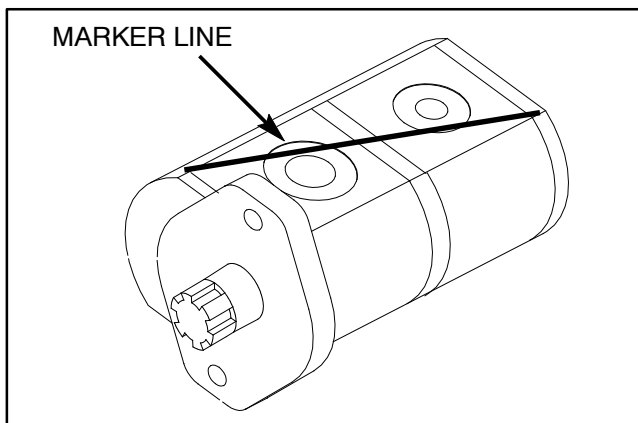

Figure 110
2. Use a marker to make a **diagonal** line across the front plate, front body, adapter plate, rear body, and back plate for assembly purposes (Fig. 110).